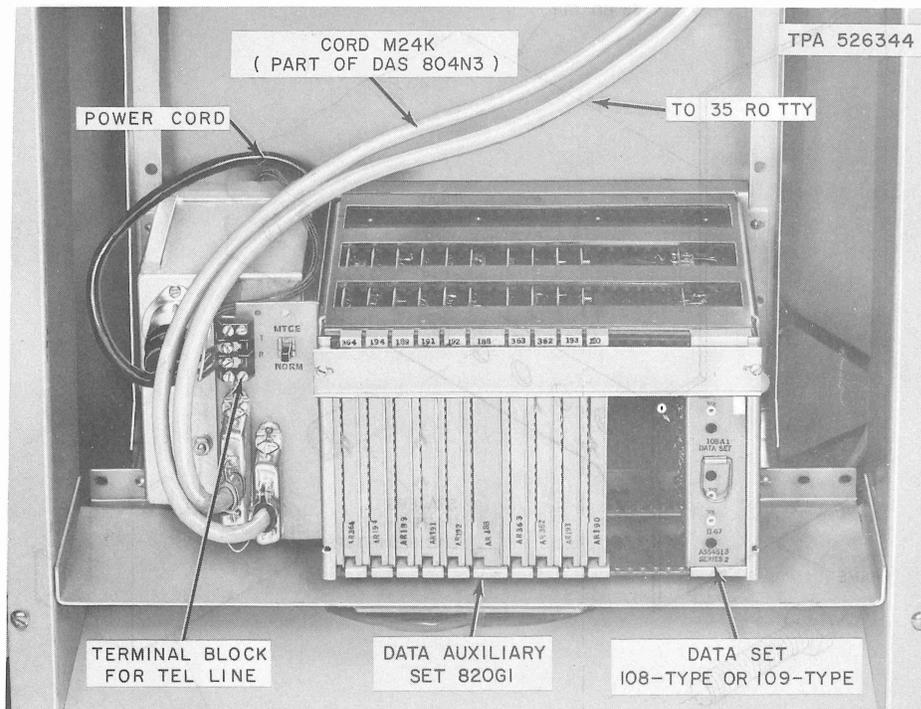

Fig. 4—Data Auxiliary Set 820G1 Mounted in a 35 RO TTY Using a 92A Bracket
**2.08** Installation of a 35 RO TTY station shall be made in accordance with the section entitled 35 Receive Only Page Printer Set—Installation (574-200-200). The interconnection of station components for a 35 RO or ROTR TTY using a DAS 820G or 820J-type controller is shown by Fig. 2. All plugs and connectors shall be installed in accordance with Fig. 2. The line connections are made to the T and R terminals on the data auxiliary set. The DAS 820G or 820J-type controller is physically mounted in a 35 RO TTY using the 92A bracket. Figure 4 shows a DAS 820G1 controller mounted in a 35 RO TTY.